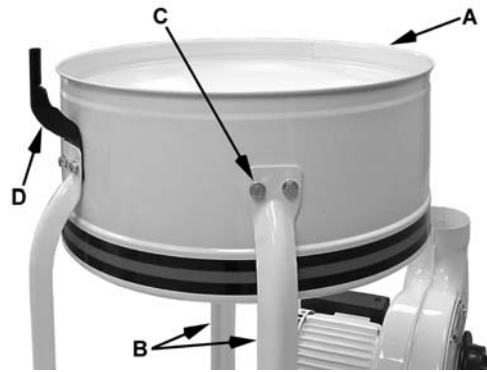
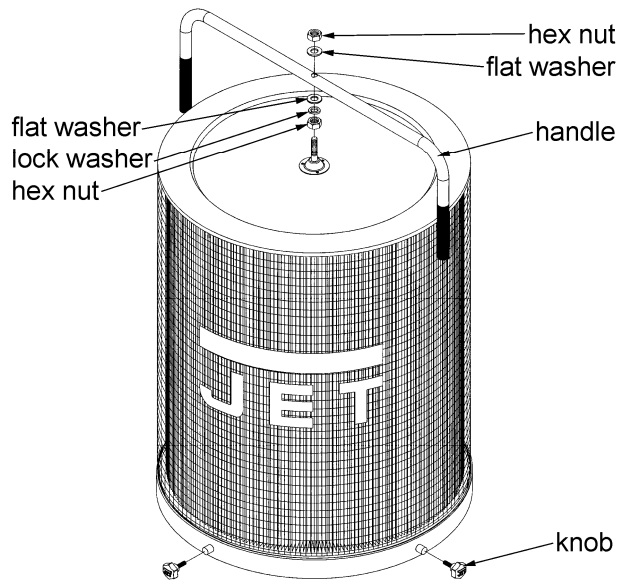

Figure 5
Figure 10
- Install the *housing* (A, Fig. 5) to two *support legs* (B, Fig. 5) using four M8 x 16 hex cap bolts, eight M8 flat washers, and four M8 hex nuts (C, Fig. 5). *Be sure hose opening faces fan housing.*
**Note:** For models DC-1200VX-BK1 or DC-1200VX-BK3 only – Before attaching third support bracket, place the *hanger bracket* (D, Fig.5) between the support bracket and the housing.
1. Mount the handle onto the canister filter with two M10 hex nuts, two M10 flat washers, and a M10 lock washer (Figure 10).
2. Mount the canister filter on top of the *collector housing* (A, Fig. 5) and tighten the knobs on the *canister filter* (Figure 10).